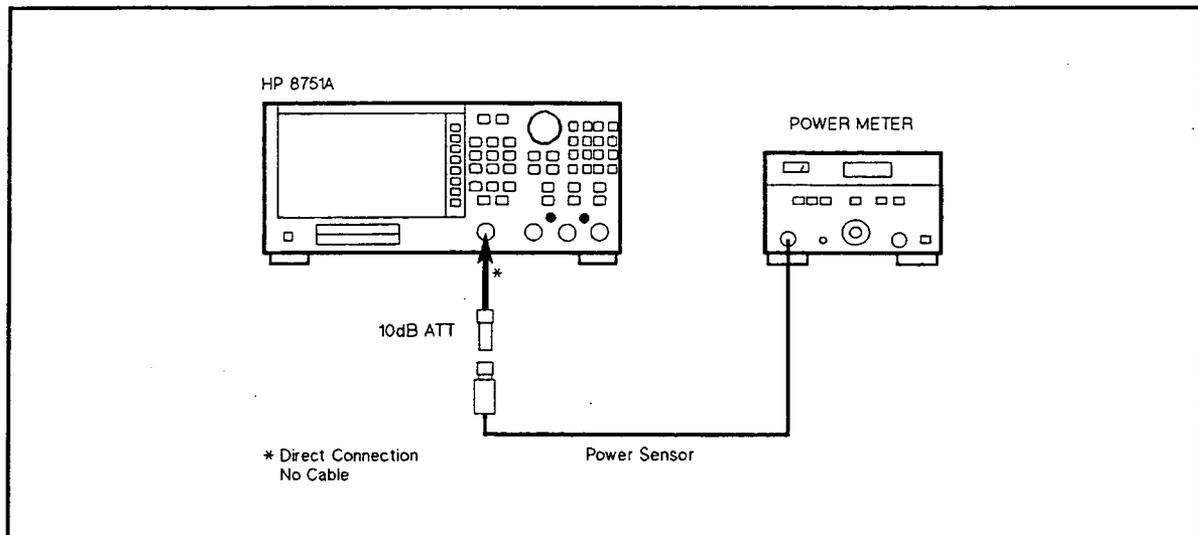

Figure 2-6. Power Linearity Test Setup
2. Connect the Power Meter to the HP 8751A's RF OUT as shown in Figure 2-6.